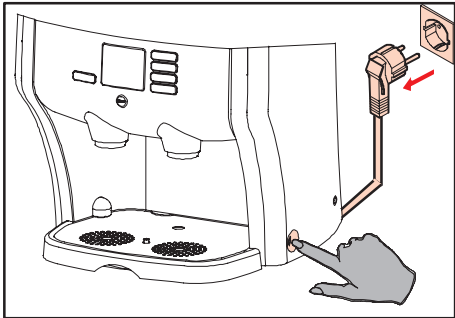

Fig. 85 Switching the dispenser off/on
5. Switch the dispenser off and pull the plug out of the power outlet (fig. 85).